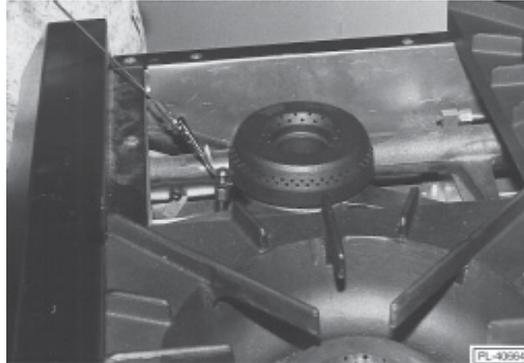

Fig. 17
2. Wait 30 seconds and, using a taper, light the open top pilot (Fig. 17).